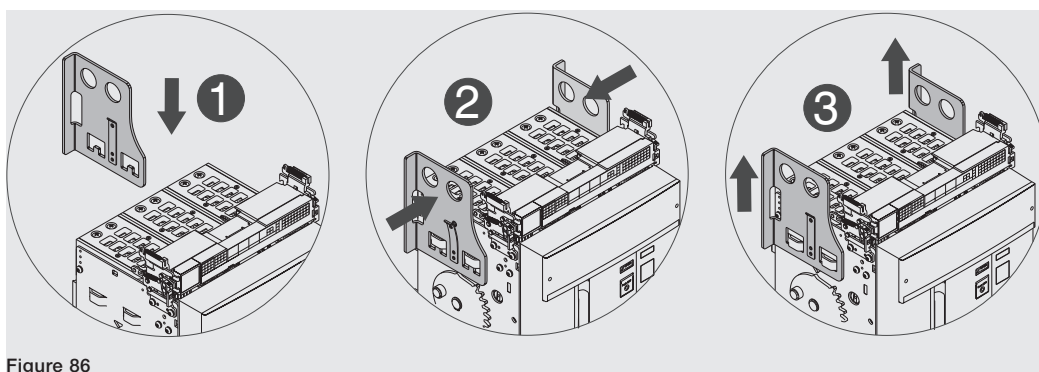

Figure 86
2. Position the lifting plates on the mobile part making sure that the tongue of the plates is latched properly. See Figure 86.